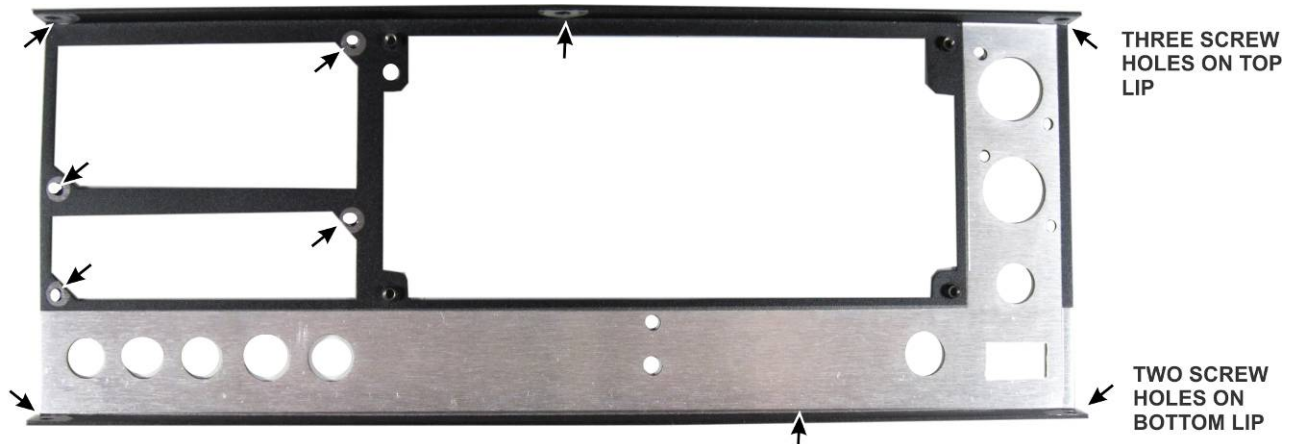

Figure 42. Checking Rear Panel for Masking Tape.
- Locate the K3S rear panel and inspect the inside surface for masking tape around the connector and screw holes as shown in Figure 42. Note that there are three screw holes on the top lip and two on the bottom lip that must be clear as well.